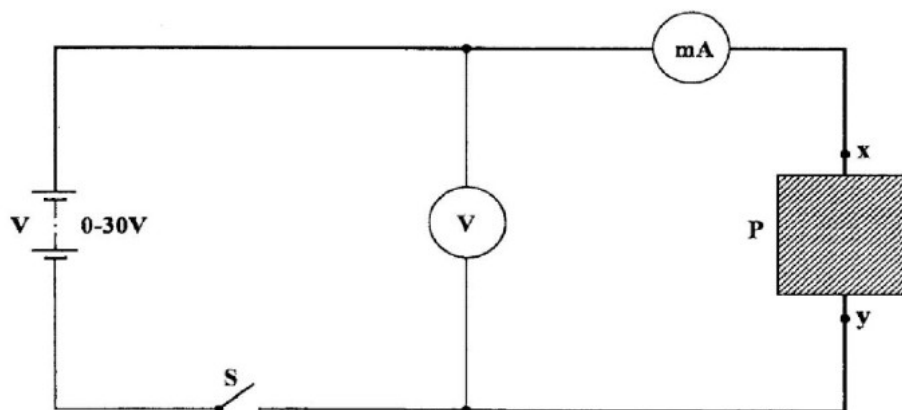

Figure 3
- (a) Connect the circuit shown in **figure 3**. Let the examiner check your work.